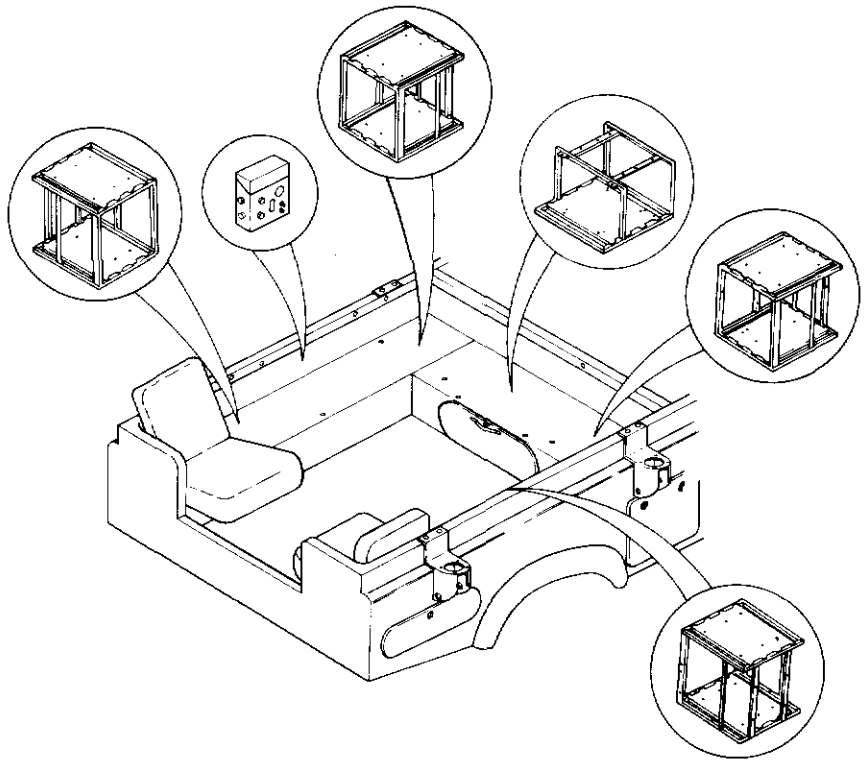

Figure 1-22 Radio installation — Raven
97. When installing Project Raven radio frames, the radio power distribution box must be repositioned by mounting the distribution box slightly rearwards in the upright position using the inserts provided in the body capping and wheel arch. Similarly, there are inserts in the body cappings and captive nut plates located in the wheel arch and security locker to allow the installation of the radio frames (see Fig. 1-22).